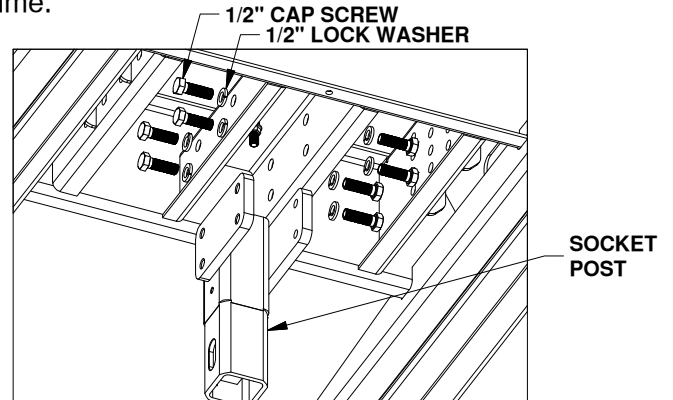

FIGURE B2: View of base looking up at the bottom.
2. Once you have established in which orientation the socket post should be installed, locate the socket post and eight 1/2" cap screws and 1/2" lock washers. Slide the socket post into the bottom of the Companion base and attach the socket post to the base with the eight 1/2" cap screws and lock washers. See figure B2. Do not fully tighten hardware at this time.